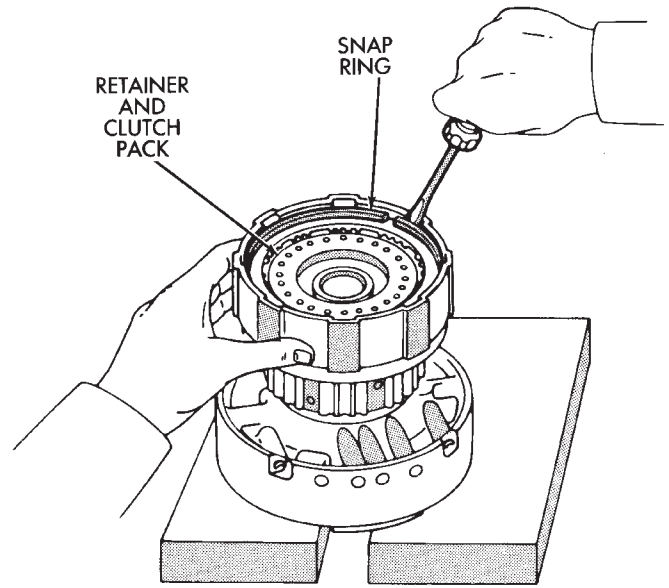

Fig. 4 Removing Retainer And Clutch Pack
(8) Remove clutch pack snap ring and remove retainer and clutch pack (Fig. 4).